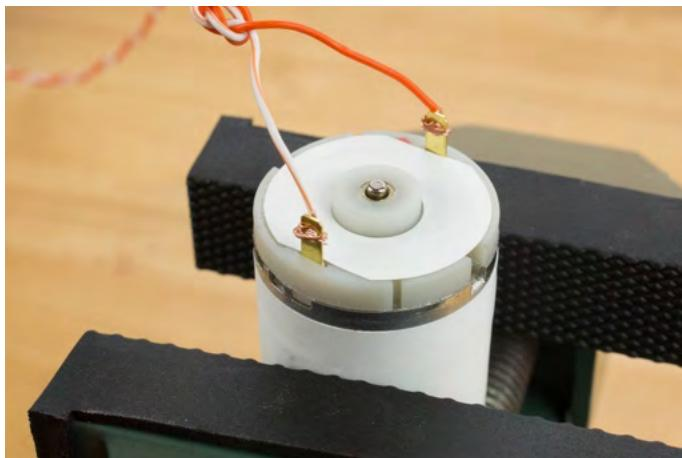

Figure 19
- Twist and squeeze the wires around the terminal using the needle nose pliers to make a solid mechanical connection. (Figure 19)